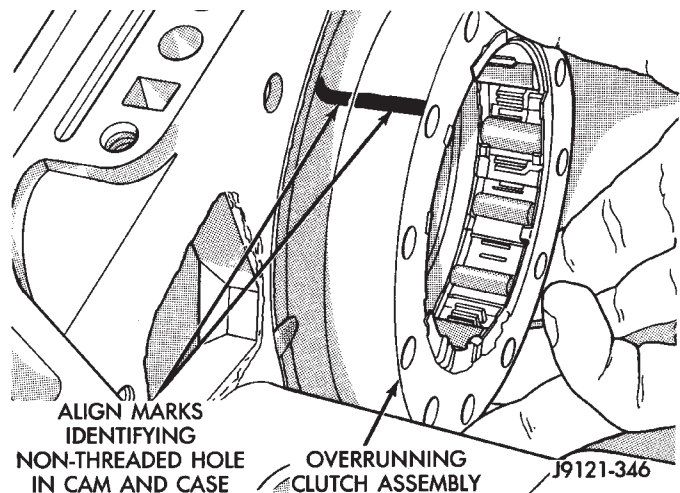
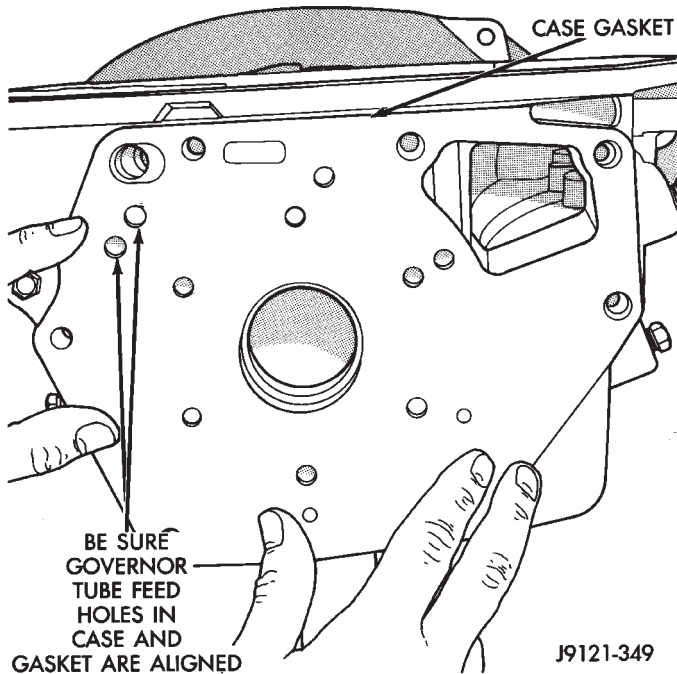

Fig. 141 Overrunning Clutch Installation
Fig. 142 Installing/Aligning Case Gasket
(3) Align and install overrunning clutch and cam in case (Fig. 141). **Be sure cam is correctly installed. Bolt holes in cam are slightly countersunk on one side. Be sure this side of cam faces rearward (toward piston retainer).**
(4) Verify that non-threaded hole in clutch cam is properly aligned. Check alignment by threading a bolt into each bolt hole. Adjust clutch cam position if necessary.
(5) Install and tighten overrunning clutch cam bolts to 17 N·m (13 ft. lbs.) torque. Note that clutch cam bolts are shorter than piston retainer bolts.
(6) Install new gasket at rear of transmission case. Use petroleum jelly to hold gasket in place. Be sure to align governor feed holes in gasket with feed passages in case (Fig. 142). Also install gasket before overdrive piston retainer. Center hole in gasket is smaller than retainer and cannot be installed over retainer.
(7) Position overdrive piston retainer on transmission case and align bolt holes in retainer, gasket and